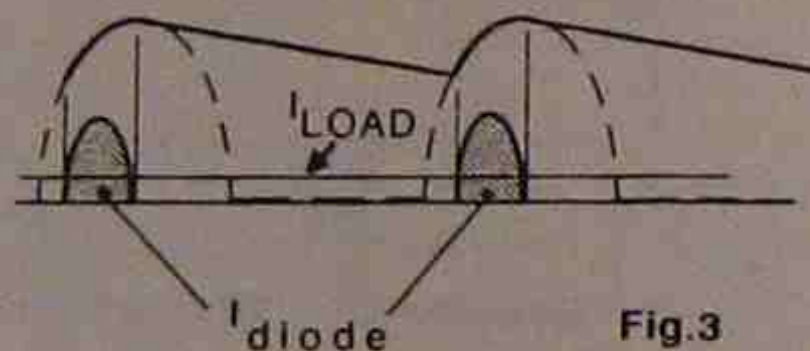

Fig.3
- the current flowing in the diode is a series of short duration, high value pulses as shown in Fig.3. As an approximation, the current pulses can have a value of up to 10 times the load current. Thus, the diode current rating must be greater than the load current. Also, the transformer secondary current rating should exceed the load current.